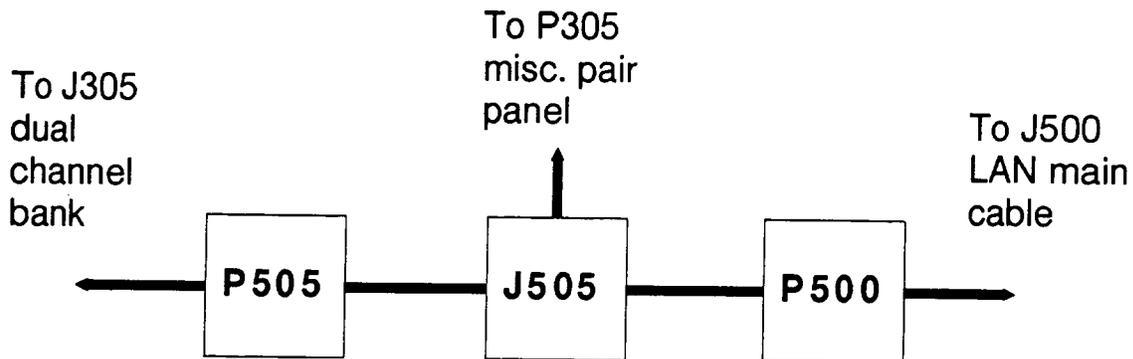

Figure 1 — DCB-T Cable Connections
3. Connect the **P505** connector on the **DCB-T** cable to **J305** (see Figure 1).